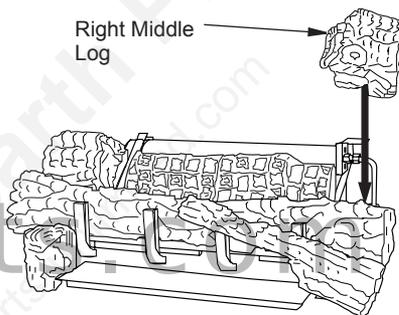

**Figure 37 - Installing Right Ember Bed Log**
- The SVFS32 and SVFS36 use two different right ember bed logs. The SVFS32 right ember bed log is installed in the same manner as the log in step 3 above but on the right side. The SVFS36 right ember bed log has a hole in the bottom that sets on the grate finger and the other end rest on the fireplace floor, place log as shown in Figure 37. The back side of this log needs to rest against the front of the base assembly, make sure the flame from the ember pan does not touch the ember bed log.